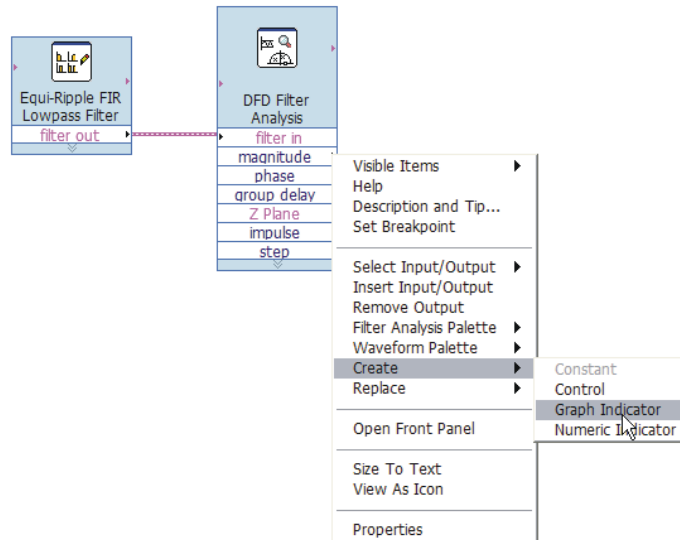

Figure 11. DFD Filter Analysis Express VI Shortcut Menu
24. On the block diagram, right-click the **magnitude** output on the DFD Filter Analysis Express VI and select **Create»Graph Indicator** from the shortcut menu as shown in Figure 11.